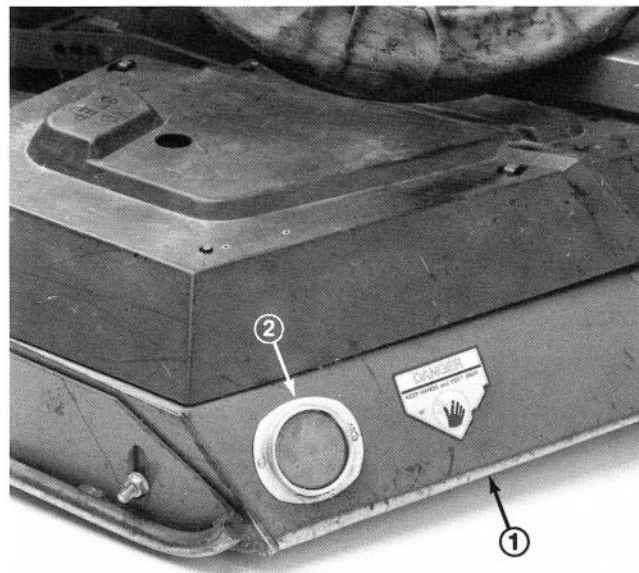

Figure 14
1. Position a round amber reflector over the front outboard corner of each side of the front cutting unit and center punch each reflector mounting hole (Fig. 14).
2. Drill 7/32 in. holes and secure reflectors to the cutting unit with 10-24 x 1/2 in. machine screws and keps nuts (Fig. 14).